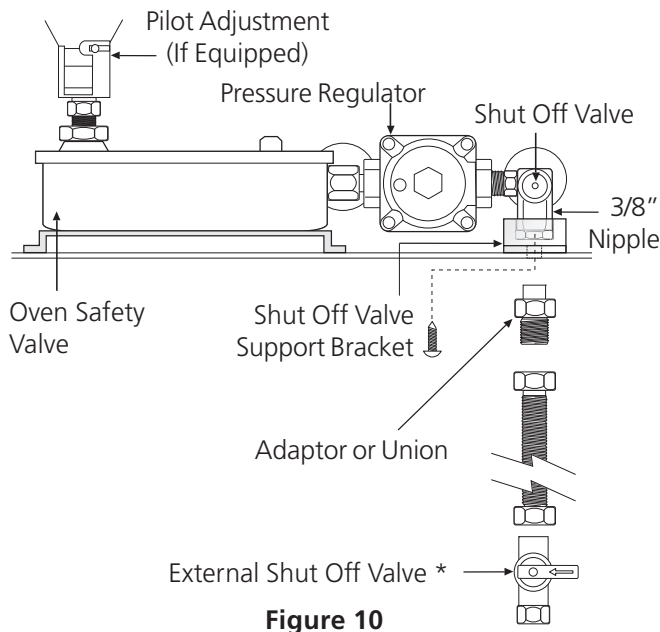

Figure 10
B. Model with 2 oven cavities (see figure 10)